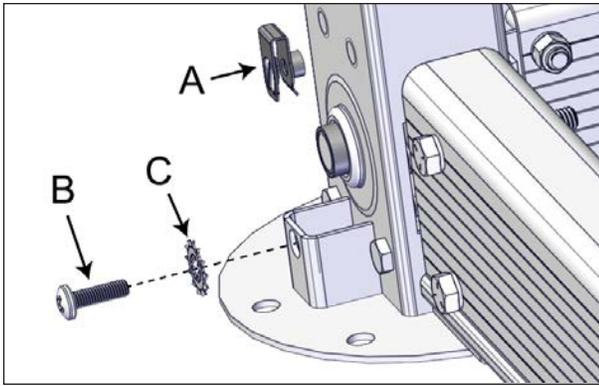

FIGURE 25: CLIP-ON BARREL NUT INSTALLATION
19. Install the clip-on barrel nuts at the bottom of the non-motor-side jack assemblies to hold the sleeves in the bottom. Use Phillips M6 x 20 mm screws and 1/4" int./ext. tooth lockwashers. Only the non-motor-side jack assemblies need clip-on barrel nuts to be installed, see Figure 25.